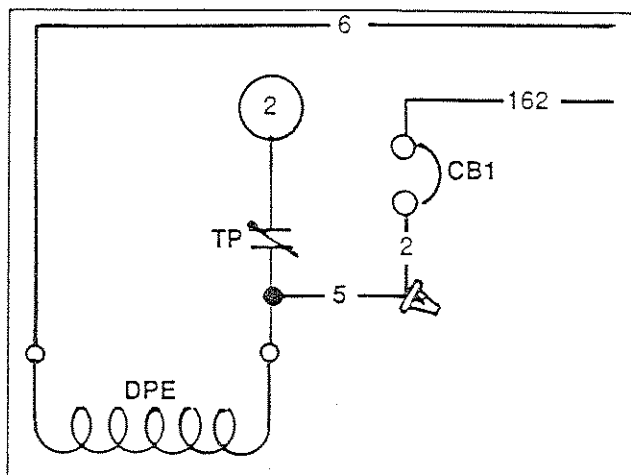

Figure 2. Bypassing the Thermal Protector
1. If normal DPE winding resistance was indicated in Test 4, but "infinity" is indicated in Test 5, bypass the thermal protector by connecting Wire No. 5 to the excitation circuit breaker (CB1). See Figure 2.